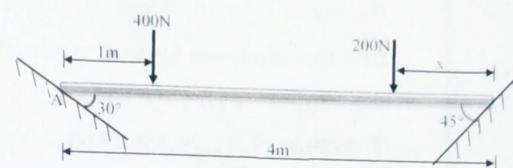

Fig 2.31
- 2) A weightless bar is placed in a horizontal position on the smooth inclines as shown in fig 2.31. Find 'x' at which 200N force should be placed from point B to keep the bar horizontal.